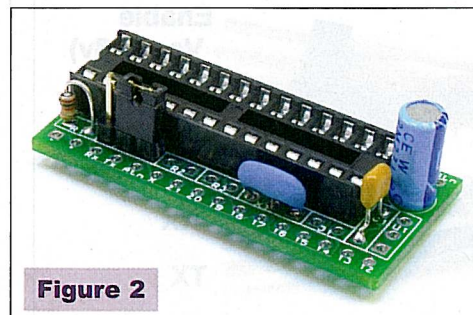

Figure 2
• **STEP 1:** The first thing you need to do is to build the Dios Carrier 1. Build it according to the included instructions but hold off attaching the two included 16-pin headers as shown in Figure 2. The carrier comes with a 10  $\mu$ F capacitor and this is plenty for the circuit; however, you may want to replace it with a 100  $\mu$ F capacitor. This will keep the insertion of the memory card from resetting the DiosPro chip. A 100  $\mu$ F capacitor won't fit on the board, so you will have to bend the pins and insert it at an angle.